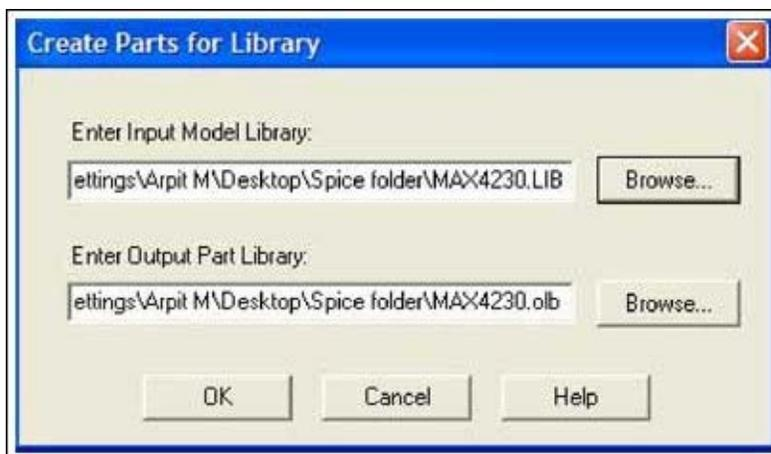

Figure 2. The creation of a Spice model symbol starts at the Create Parts window.
2. Select "File," then "Create Capture Parts." The window shown in **Figure 2** will pop up.